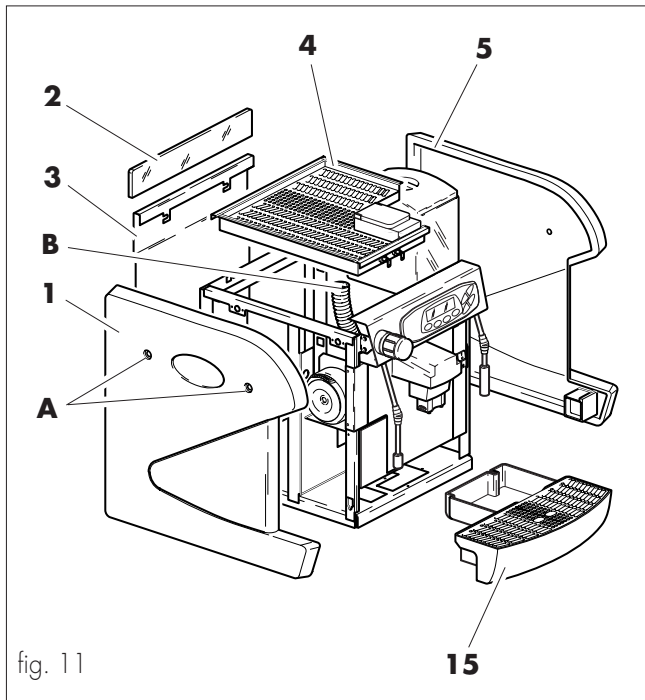

fig. 11
The side panels (ref. **1** and **5**, fig. 11) and the back panel (ref. **3**, fig. 11) can be dismantled for servicing or for customization that may suit room furniture or wall painting.
- Pull out the drip tray (ref. **15**, fig. 11).
- Manually rotate the studs (ref. **A**, fig. 11) by 1/4 of a turn with a 4 mm hexagonal spanner and slide side panels (ref. **1** and **5**, fig. 11) upwards.
- Slide glass out (ref. **2**, fig. 11).
- Dismantle the cup heating plate (ref. **4**, fig. 11) by disconnecting it from the electronic board, from the earth cable and from the drain tube (ref. **B**, fig. 11).
- Unscrew the back panel retaining nuts (ref. **3**, fig. 11) and dismantle it.
- Assemble the back panel (ref. **3**, fig. 11) and secure it with the relative nuts.
- Assemble the cup heating plate (ref. **4**, fig. 11) by inserting the electrical connector into the electronic board properly, the fitting into the drain tube (ref. **B**, fig. 11), and by connecting the earth cable.
- Manually rotate the studs (ref. **A**, fig. 11) so as to place the milling horizontally.
- Assemble one of the side panels (or ref. **1**, fig. 11 or ref. **5**, fig. 11).
- Position the glass (ref. **2**, fig. 11) in the slot of the lateral panel already assembled.
- Insert the drip tray into place (ref. **15**, fig. 11).